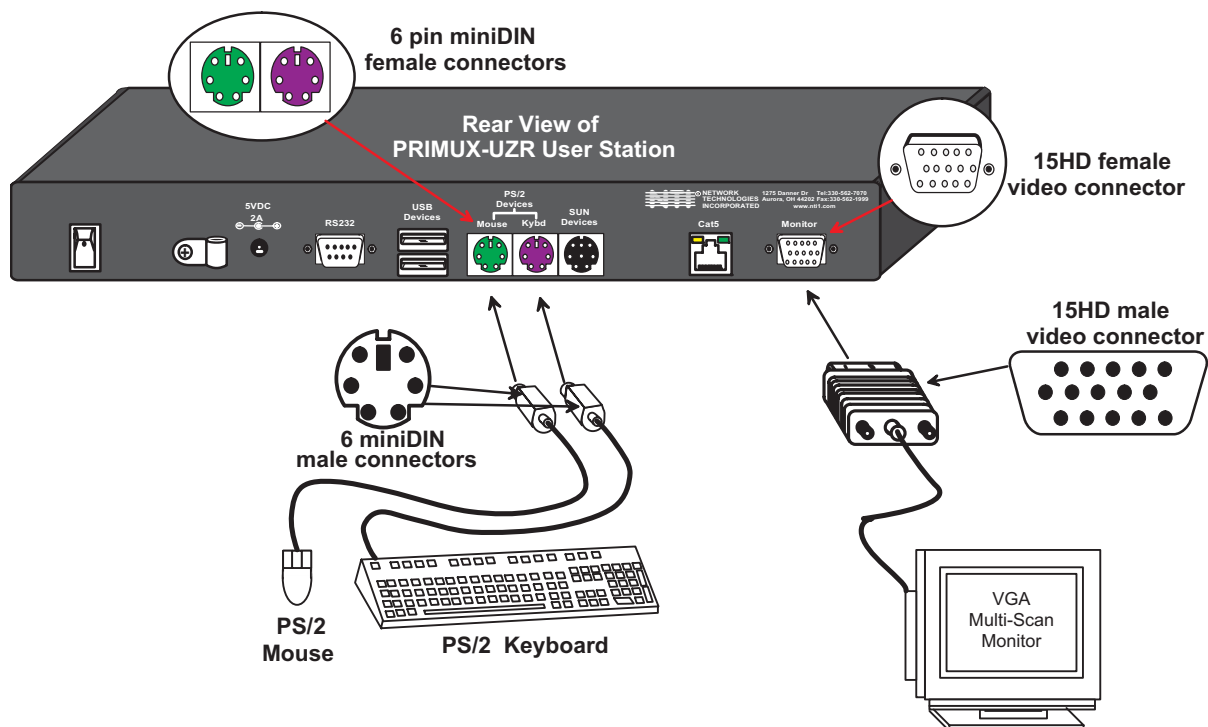

Figure 6- Connect the Extended PS/2 components to the User Station
3. Connect the PS/2 device(s) to the User Station (see Fig. 6).